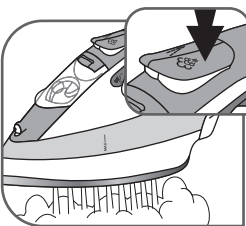
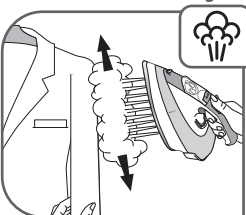

Fig.12
Fig.15
- For the TURBO function, set the thermostat control to “MAX” or “...”. Press the TURBO button from time to time – fig.12.
- Hang the garment on a hanger and hold the fabric slightly taut with one hand. The steam is very hot, so you should always do this with the garment on a hanger – never iron clothes which someone is wearing – fig.15.
- Press the turbo button in pulses – fig.12 and move the iron from the top to the bottom – fig.15.